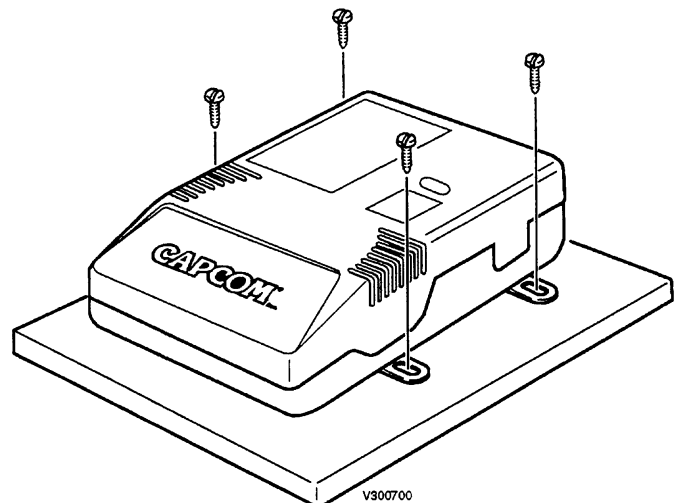

Figure 11: Case Mounting
24. Using the supplied wood screws, fasten the game cartridge case to the control panel shelf, as shown in Figure 11.